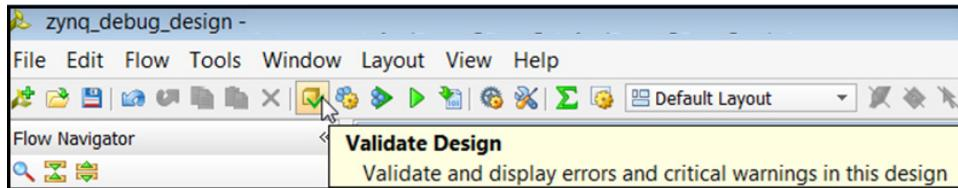

Figure 22: Validate Design Button
10. From the toolbar, run Design-Rules-Check (DRC) by clicking the **Validate Design** button (FIGURE 22). Alternatively, you can do the same from the menu by: